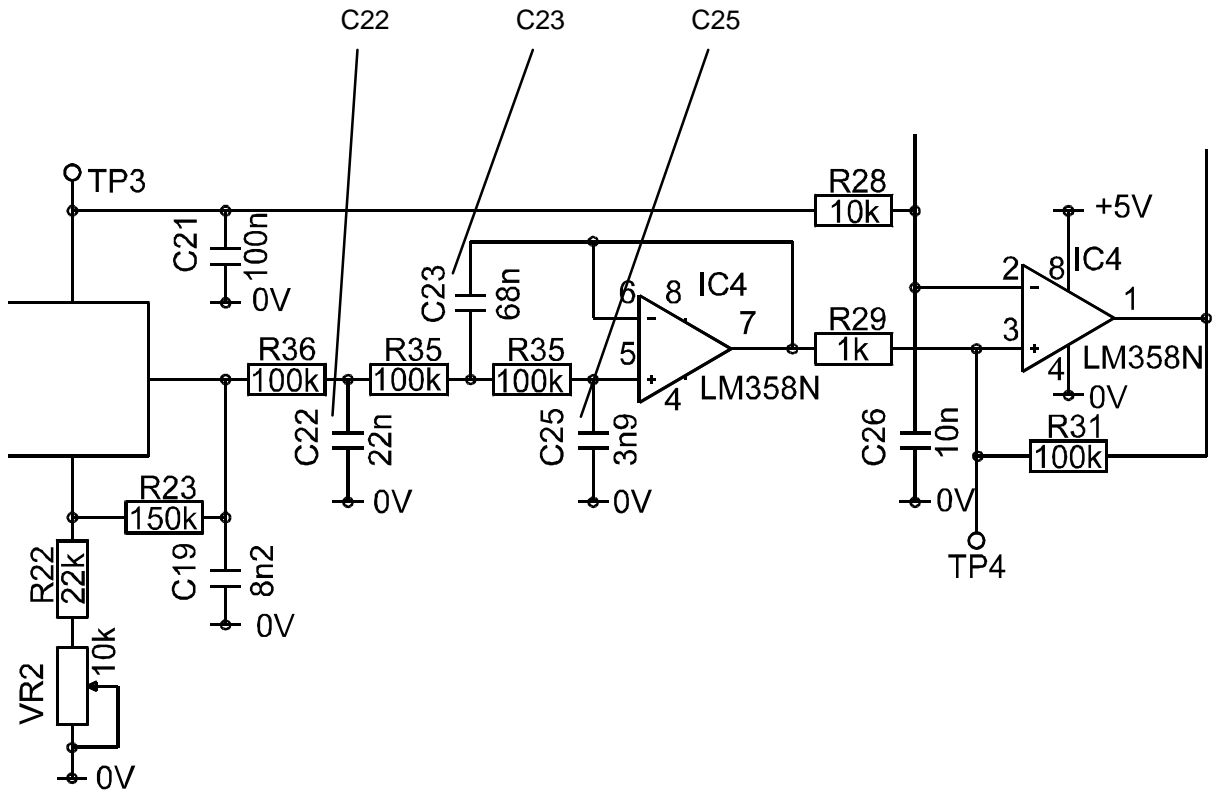

Figure 2: Circuit diagram with the correct capacitors in position
A number of existing capacitors will need to be replaced with capacitors of the appropriate value, as listed in Table 1 and illustrated in Figures 2, 3 and 4. Alignment of the FSK signal filter and the FSK decoder must be checked.
- Locate and remove the capacitors C22, C23 and C25 from the PCB using a vacuum desoldering station (see Figures 2, 3 and 4).